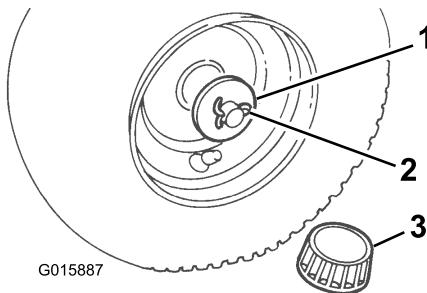

Figure 2
4. Insert the cotter pin through the axle and bend the ends of the pin apart (Figure 2).